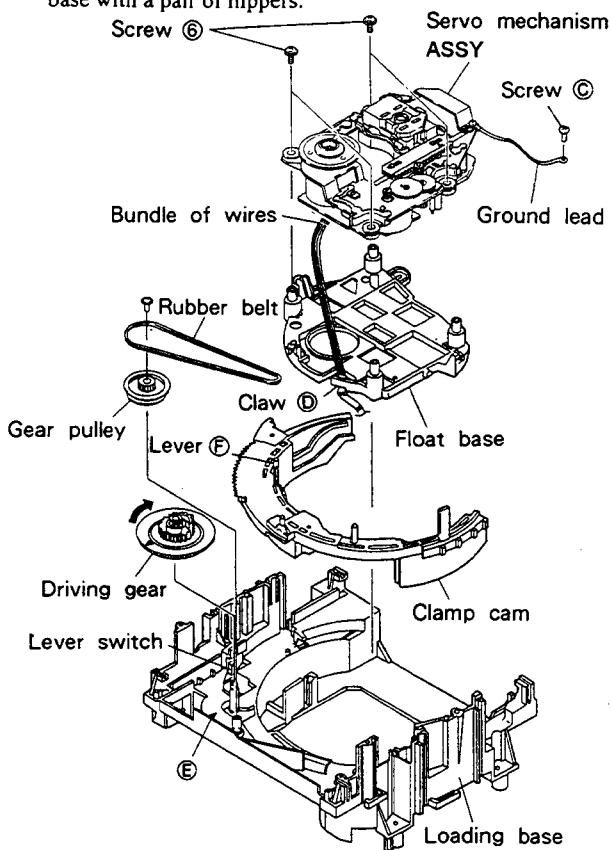

Fig. 2.
3. REMOVING THE FLOAT BASE (See Fig. 2.)
- ① Remove the servo mechanism assembly. (See 2.)
- ② Rotate the driving gear in the clockwise direction fully. The clamp cam will rotate in the counterclockwise direction, and the float base will rise.
- ③ After removing the bundle of wires from claw Ⓓ of the float base, remove the float base.